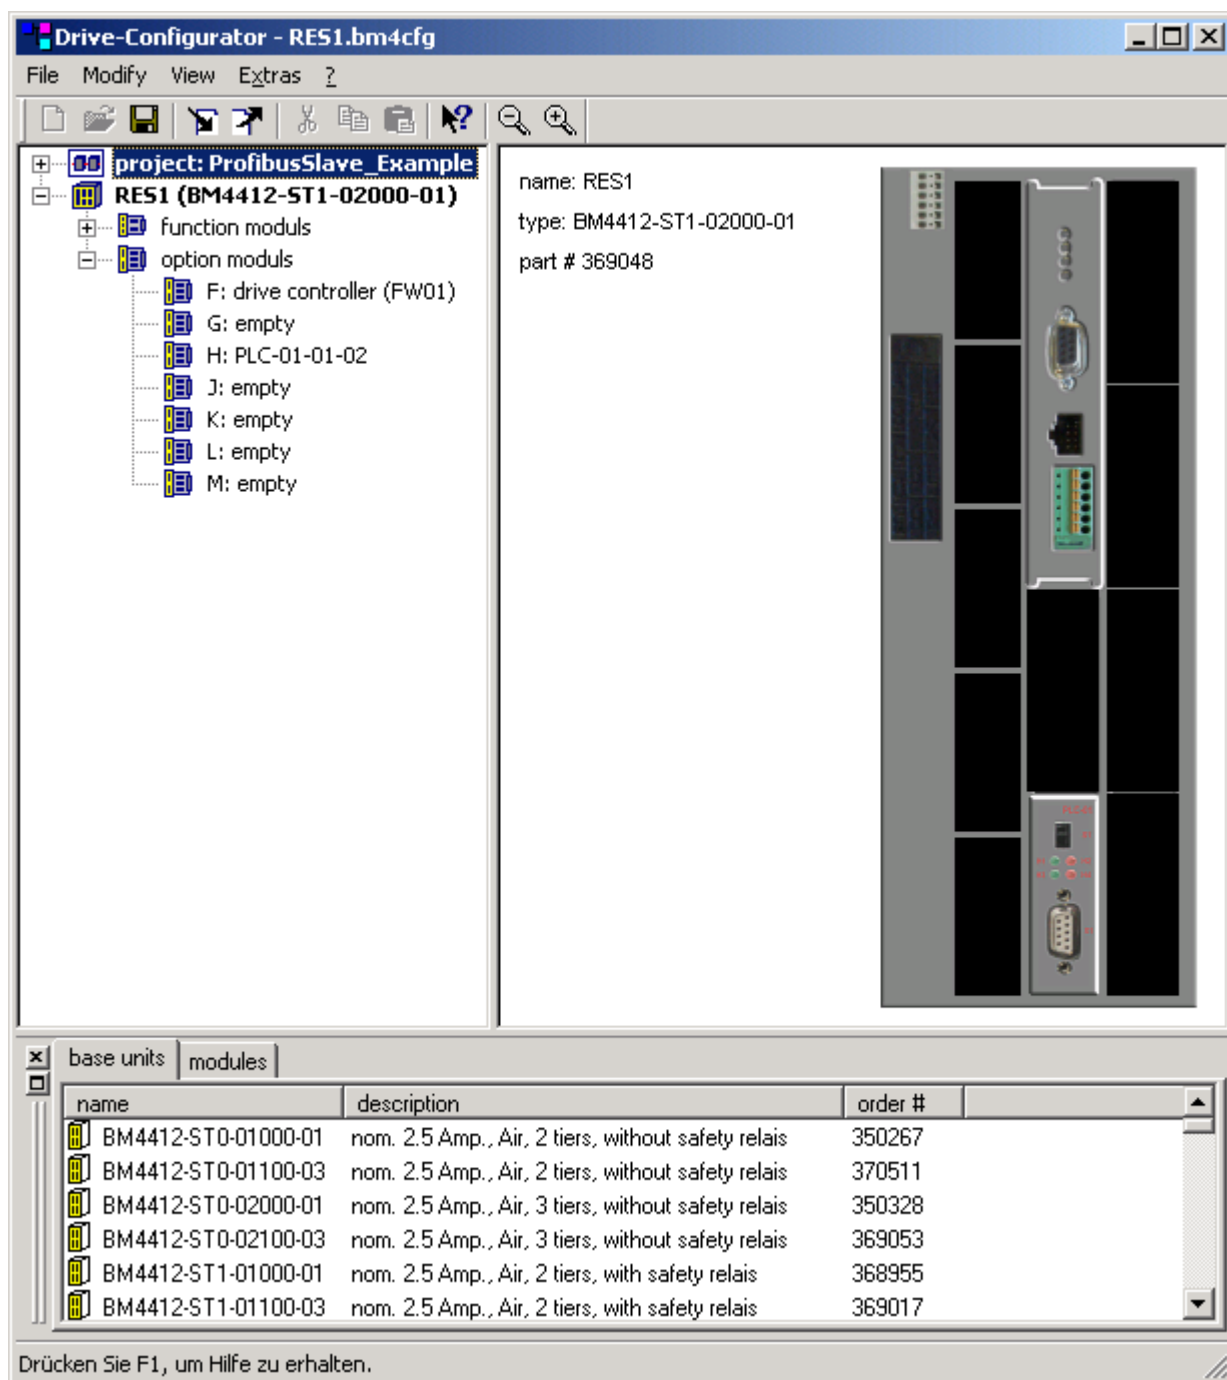

Figure 18: b maXX configurator
A b maXX basic unit incl. b maXX controller is set by default in the project tree of the b maXX configurator. The b maXX basic unit BM4412-ST1-02000-01 is set in Fig. 18, under resource „RES1“.
- A b maXX PLC in slot „H“ is set by default . The b maXX PLC BM4-O-PLC-01-01-02 is set in Fig. 18 slot „H“.